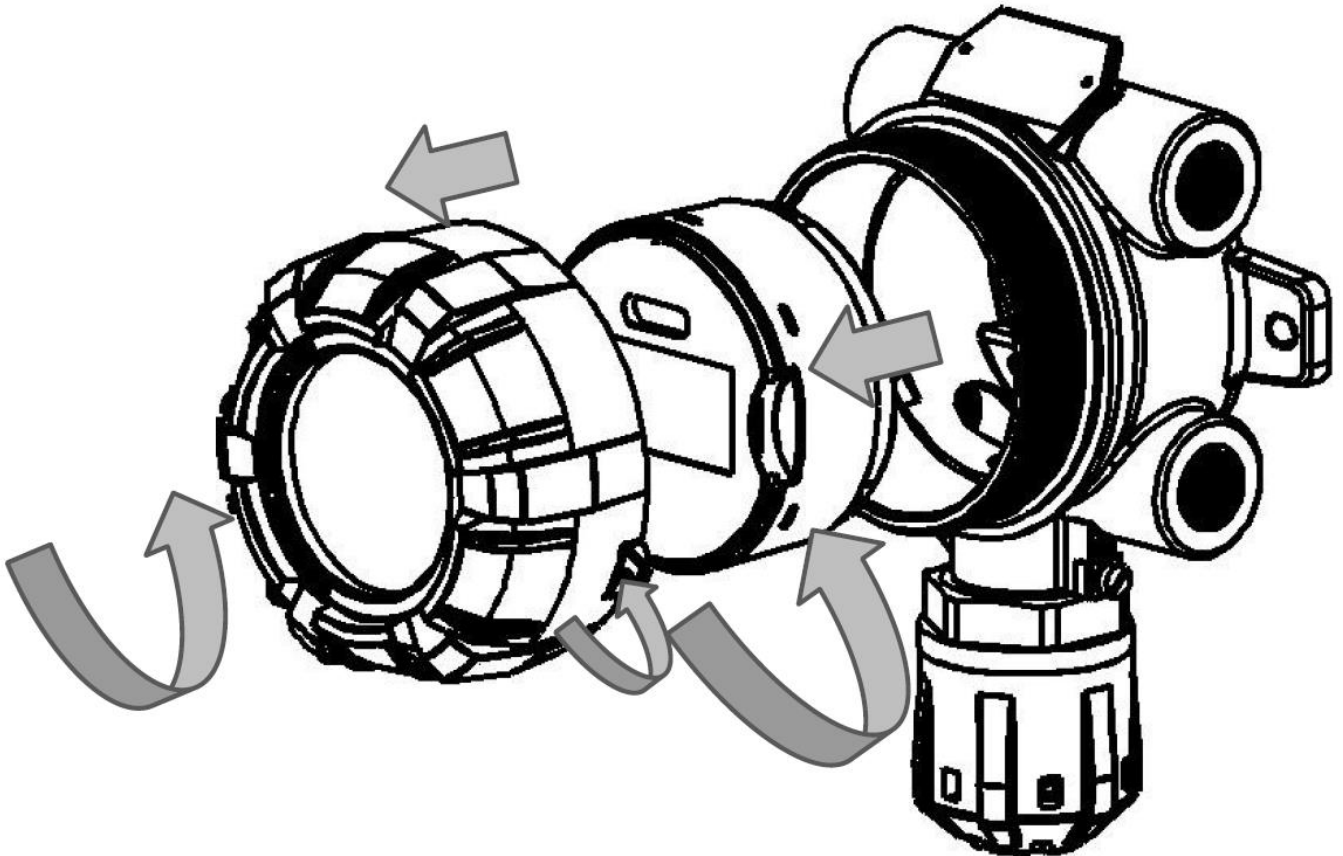

Figure 12 – AXIOM disassembly scheme
- 1) Unscrew the locking screw in the gas detector cover (Fig. 12).